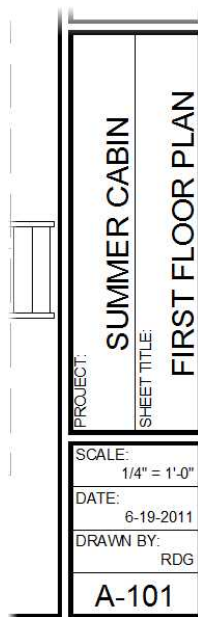

FIGURE 8.54: The completed lower title-block boxes
- a. Apply the Bottom Center (BC) text justification, and snap to the midpoint of the bottom line for each area.
- Your drawing should match Figure 8.54.